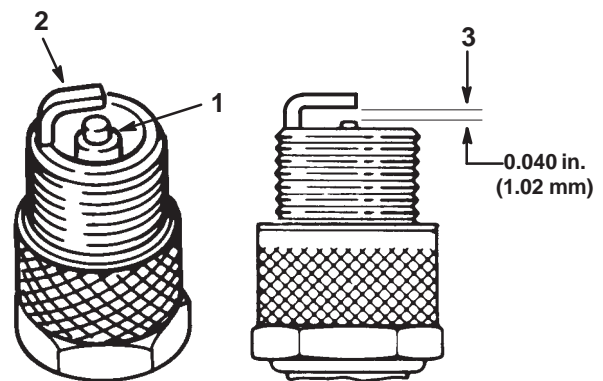

Figure 33
1. Look at the center of the spark plug (Fig. 33).
3. Check the gap between the center and side electrodes (Fig. 33).
4. Bend the side electrode (Fig. 33) if the gap is not correct.